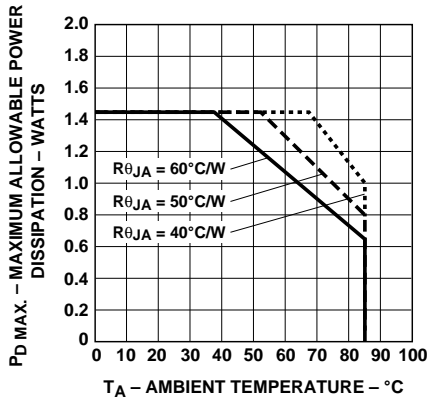

Figure 2. Maximum Allowable Power Dissipation vs. Temperature.
- The HDSP-2301/-2302/-2303 should be derated linearly above 37°C at 16.7 mW/°C. This derating is based on a device mounted in a socket having a thermal resistance from case to ambient at 35°C/W per device. See Figure 2 for power deratings based on a lower thermal resistance.
The HDSP-2301/-2302/-2303 are available in standard ceramic dual-in-line packages. They are designed for plugging into sockets or soldering into PC boards. The packages may be horizontally or vertically stacked for character arrays of any desired size. The HDSP-2301/-2302/-2303 utilize a high output current IC to provide excellent readability in bright ambient lighting. Full power operation ($V_{CC} = 5.25 \text{ V}$, $V_B = 2.4 \text{ V}$, $V_{COL} = 3.5 \text{ V}$) with worst case thermal resistance from IC junction to ambient of $60^\circ\text{C}/\text{watt}/\text{device}$ is possible up to ambient temperature of 37°C . For operation above 37°C , the maximum device dissipation should be derated linearly at $16.7 \text{ mW}/^\circ\text{C}$ (see Figure 2). With an improved thermal design, operation at higher ambient temperatures without derating is possible.